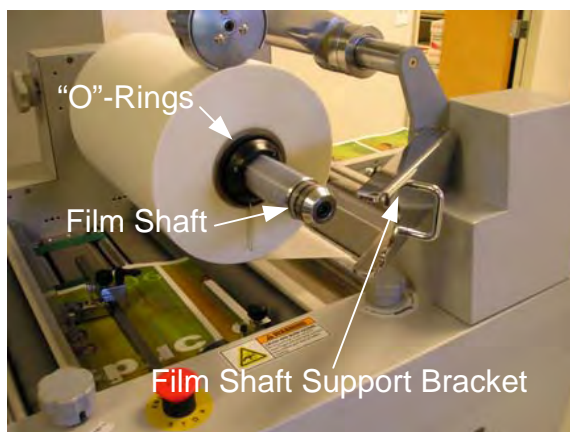

Figure 2
- Swing the **Film Shaft Support Bracket** out and slide the roll of film onto the **Film Shaft**, over the **Core Adaptors**. (Figure 2).
- Slide the **“O”-Ring** over the end of the **Core Adaptors** to keep the roll of film from shifting from side to side. (Figure 2).